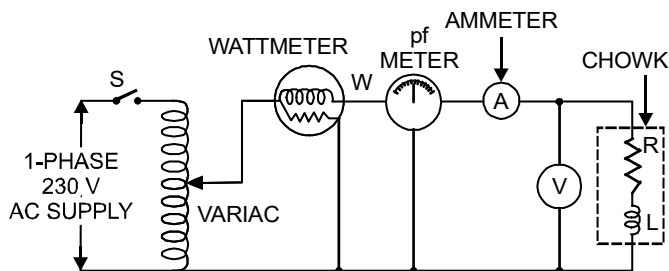

Fig.P2.1: Circuit to determine relation between V and I in R-L series circuit
- (i) Make the connections as per the circuit diagram shown in fig. P2.1.